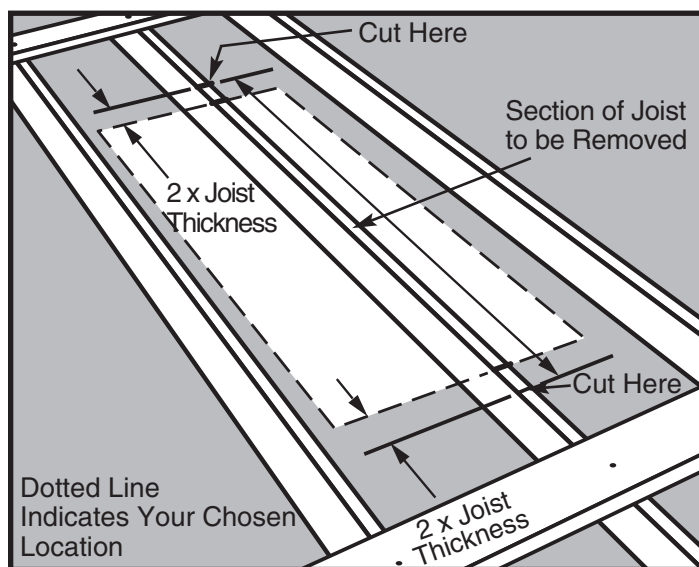
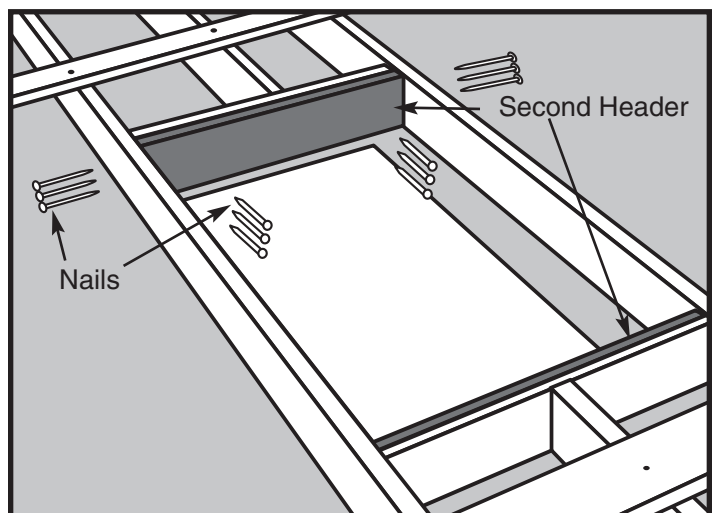

Figure 10
Figure 16
STEP 4. Determine where the joist(s) should be cut. Figure 10 shows where to mark the joist(s) that span your chosen location. Note that the joist(s) should be marked back from the edge of your location a distance of 2 times the joist thickness (usually 7.62 cm). This leaves room for two joist-sized headers to be placed against each end of the cut joist(s) (See Figure 16 on page 19).
- STEP 6.** Place a second header against the first header and nail it to the first header with (3) 16d nails between each joist (See Figure 16).
- STEP 7.** Drive (3) 16d nails through the joists into each end of the second header (See Figure 16).